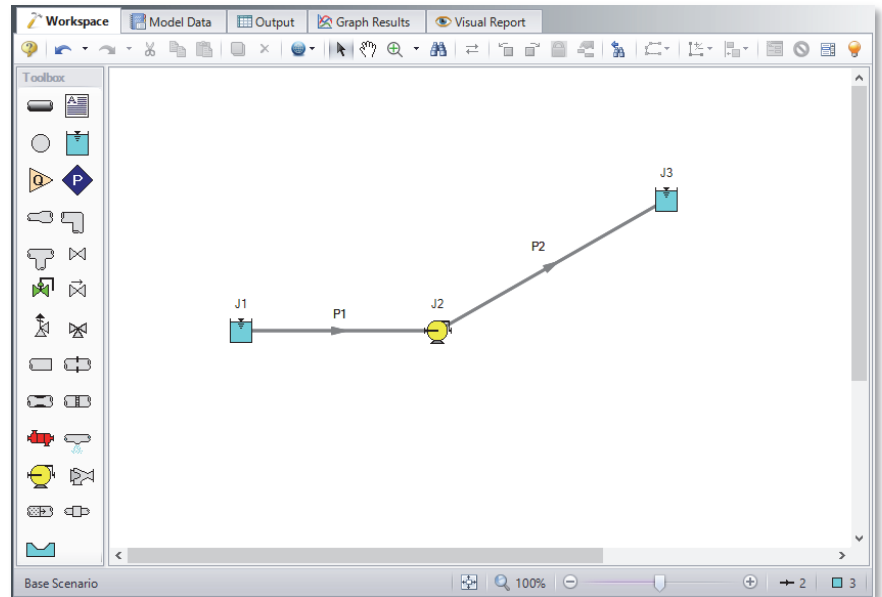

Figure 2.5f Pump Sizing model with all pipes and junctions placed
- **Activate the Pipe Drawing Tool again**, position the mouse pointer on the J2 Pump, then press and hold the left mouse button. Stretch the pipe across to the J3 Reservoir, and then release the mouse button. Your model should now look similar to Figure 2.5f.